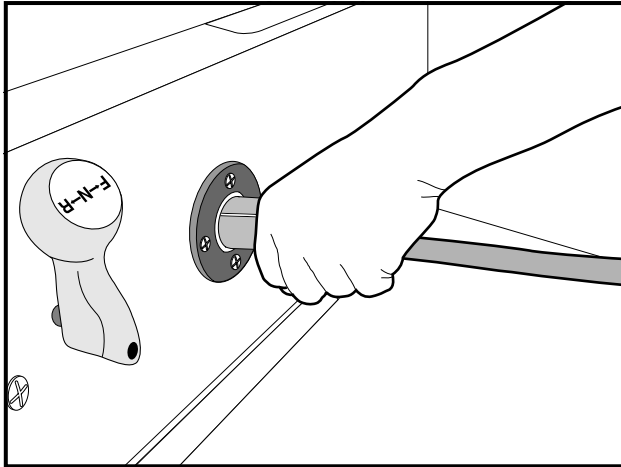
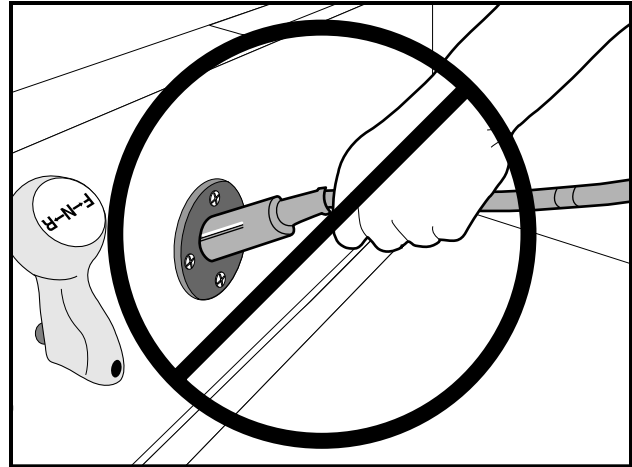

FIGURE 33
FIGURE 34
- WHEN USING AN EXTERNAL STATIONARY CHARGER, DO NOT PULL ON THE DC CORD (**FIGURE 34, PAGE 52**). DO NOT TWIST, ROCK, OR BEND THE PLUG. TO DISCONNECT THE PLUG FROM THE RECEPTACLE, GRASP THE PLUG, *NOT THE CORD*, AND PULL IT SLOWLY STRAIGHT OUT OF THE RECEPTACLE (**FIGURE 33, PAGE 52**).
Insert the charger AC plug into a dedicated AC receptacle that is properly grounded and wired in accordance with the National Electric Code, ANSI/NFPA 70, and all local codes and ordinances. Then insert the charger DC plug into the vehicle receptacle. The charger will activate two to ten seconds later (**Figure 33, Page 52**).